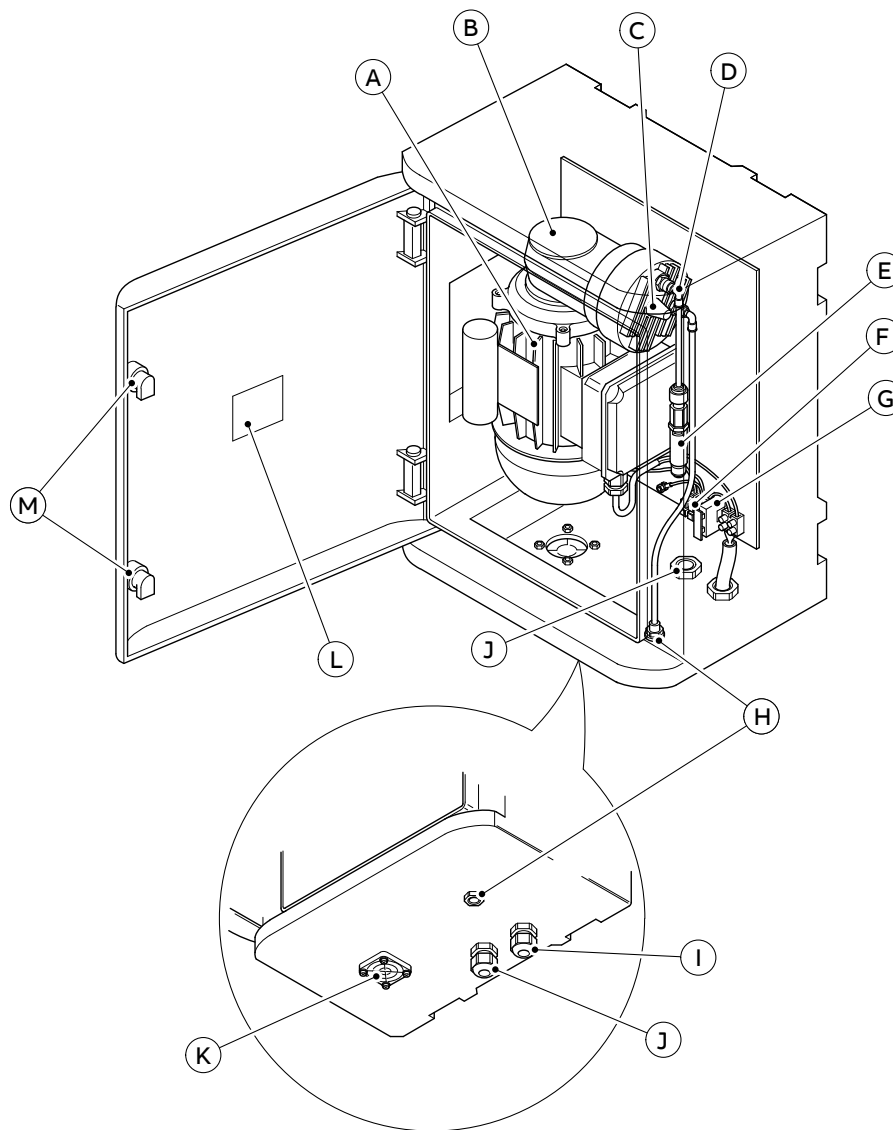

Figure 1 EZClean components
EZClean components are shown in Figure 1 shows the EZClean compo:
Referring to Figure 1:
- Ensure the voltage supply matches the supply voltage specified on the instrument label (P) fitted within the enclosure before making connections – see Figure 1 on page 5.